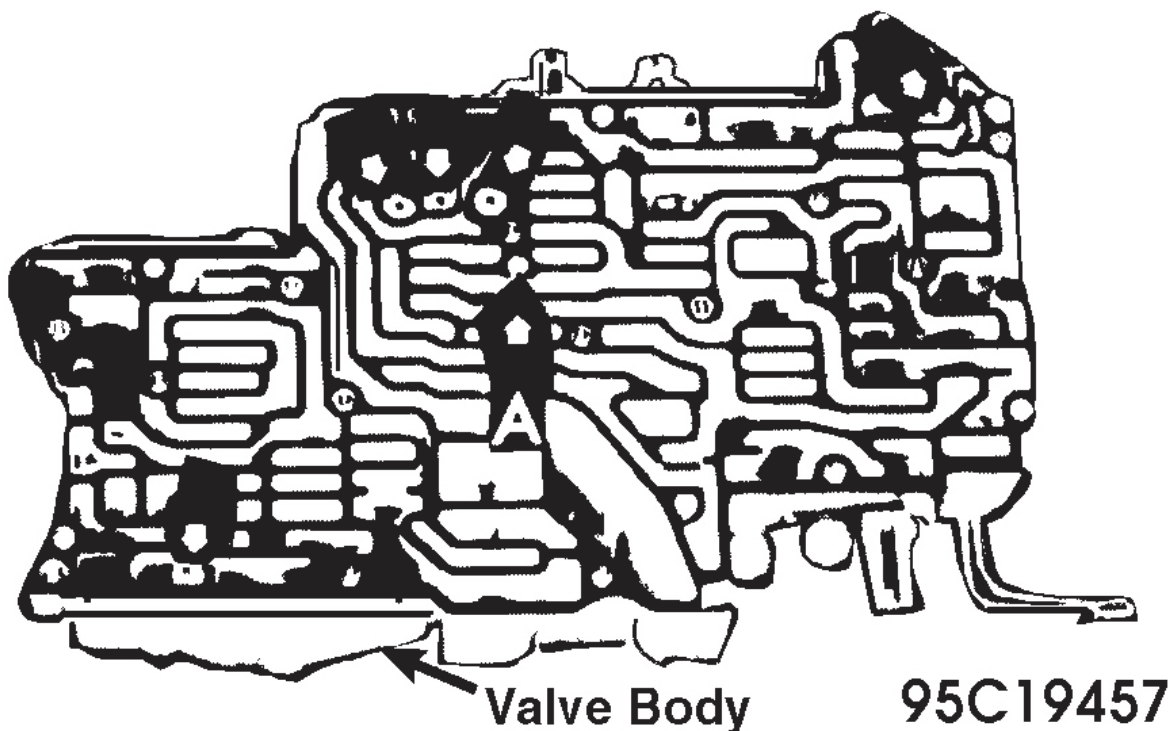

Fig. 11: View Of Valve Body Showing Location Of Transfer Plate Sealing Balls
5. To install new searing ball, stick .118" (3 mm) diameter ball to end of 8 mm punch with small amount of grease. Drive ball flush into hole of transfer plate. See **Fig. 11**.